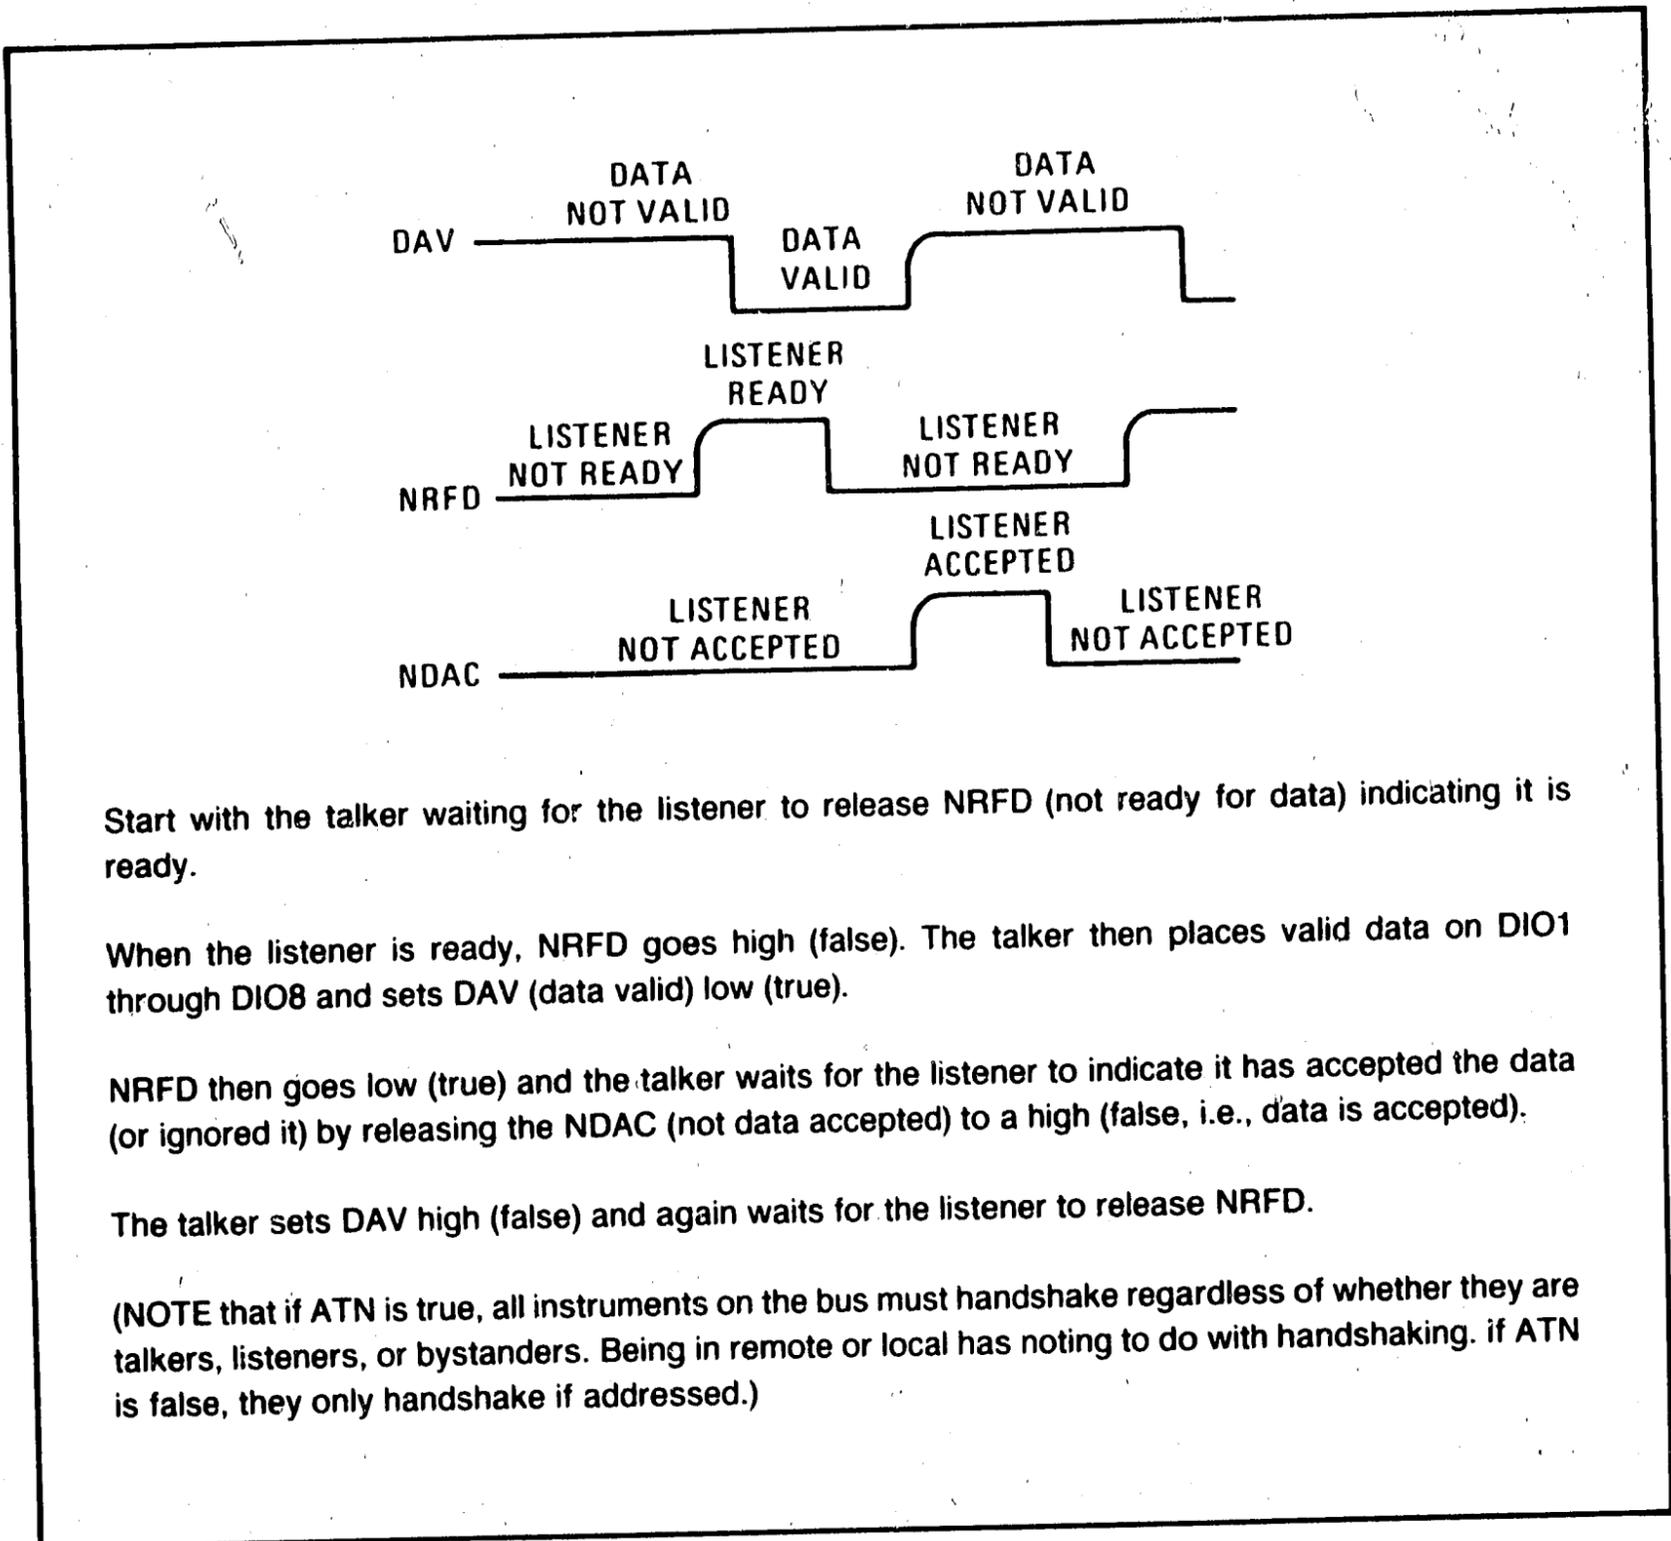

Figure 8-19. Simplified HP-IB Handshake Between a Talker (Computer Controller) and One Listener (Transceiver Interface)
The GPIA has three "handshake" lines: NDAC (L), NRFD (L), and DAV (L). The handshake lines allow the Transceiver Interface to transfer data in an asynchronous, bidirectional mode with the HP-IB controller. The handshake occurs when the listener first indicates when it is ready to listen (receive data). The talker responds by indicating when the data that appears on the data lines (DIO1-DIO8) is valid. The listener then informs the talker when the data has been accepted, thus completing a data transfer. See Figure 8-19 for the handshake-timing diagram.